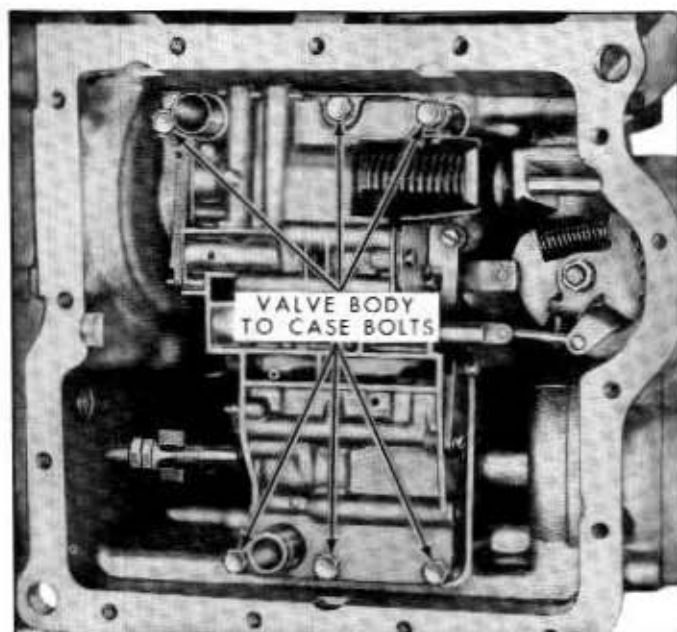

Fig. 7A-7—Control Valve Body Installed—(60C-4407)
5. Remove the bolts that attach the control valve body to the transmission case. See figure 7A-7.